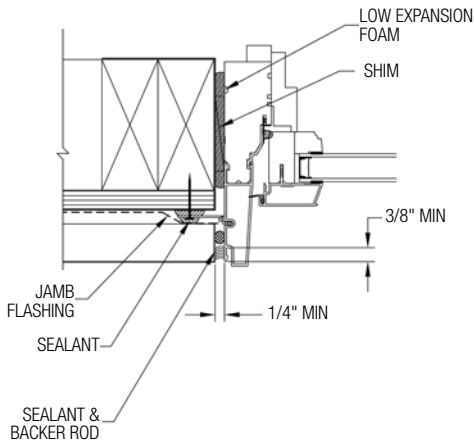

FIG. 18
- A) After siding or wall exterior is complete, apply backer rod and silicone sealant between the window frame and siding material on both sides and sill. Sealant bead must extend to back of accessory groove (3/8" Min.) (Fig.18)
- B) **WARNING:** Maintain a minimum of 1/4" between the window frame and any trim, siding or masonry. Failure to do so will forfeit all warranties (written or implied). Windsor Windows & Doors will not be held responsible for any claims or damages resulting from failure to follow these instructions. (Fig.18)